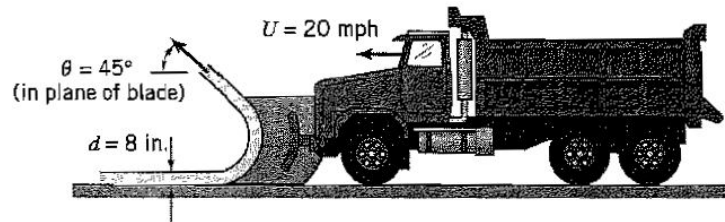

Figure P3.62
3.62 A snow plow mounted on a truck clears a path 12 ft wide through heavy wet snow. The snow is 8 in deep and its density is $10 \text{ lb}_m/\text{ft}^3$. The truck travels at 20 mph , and the plow is set at an angle of 45° from the direction of travel and 45° above the horizontal, as shown in Figure P3.62. The snow is therefore discharged from the plow at an angle of 45° from the direction of travel and 45° above the horizontal. Find the force required to push the plow.²